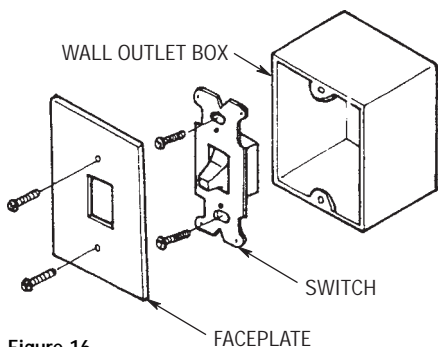

Figure 16
- 3. Disconnect wires from existing fan wall switch (Figure 16).